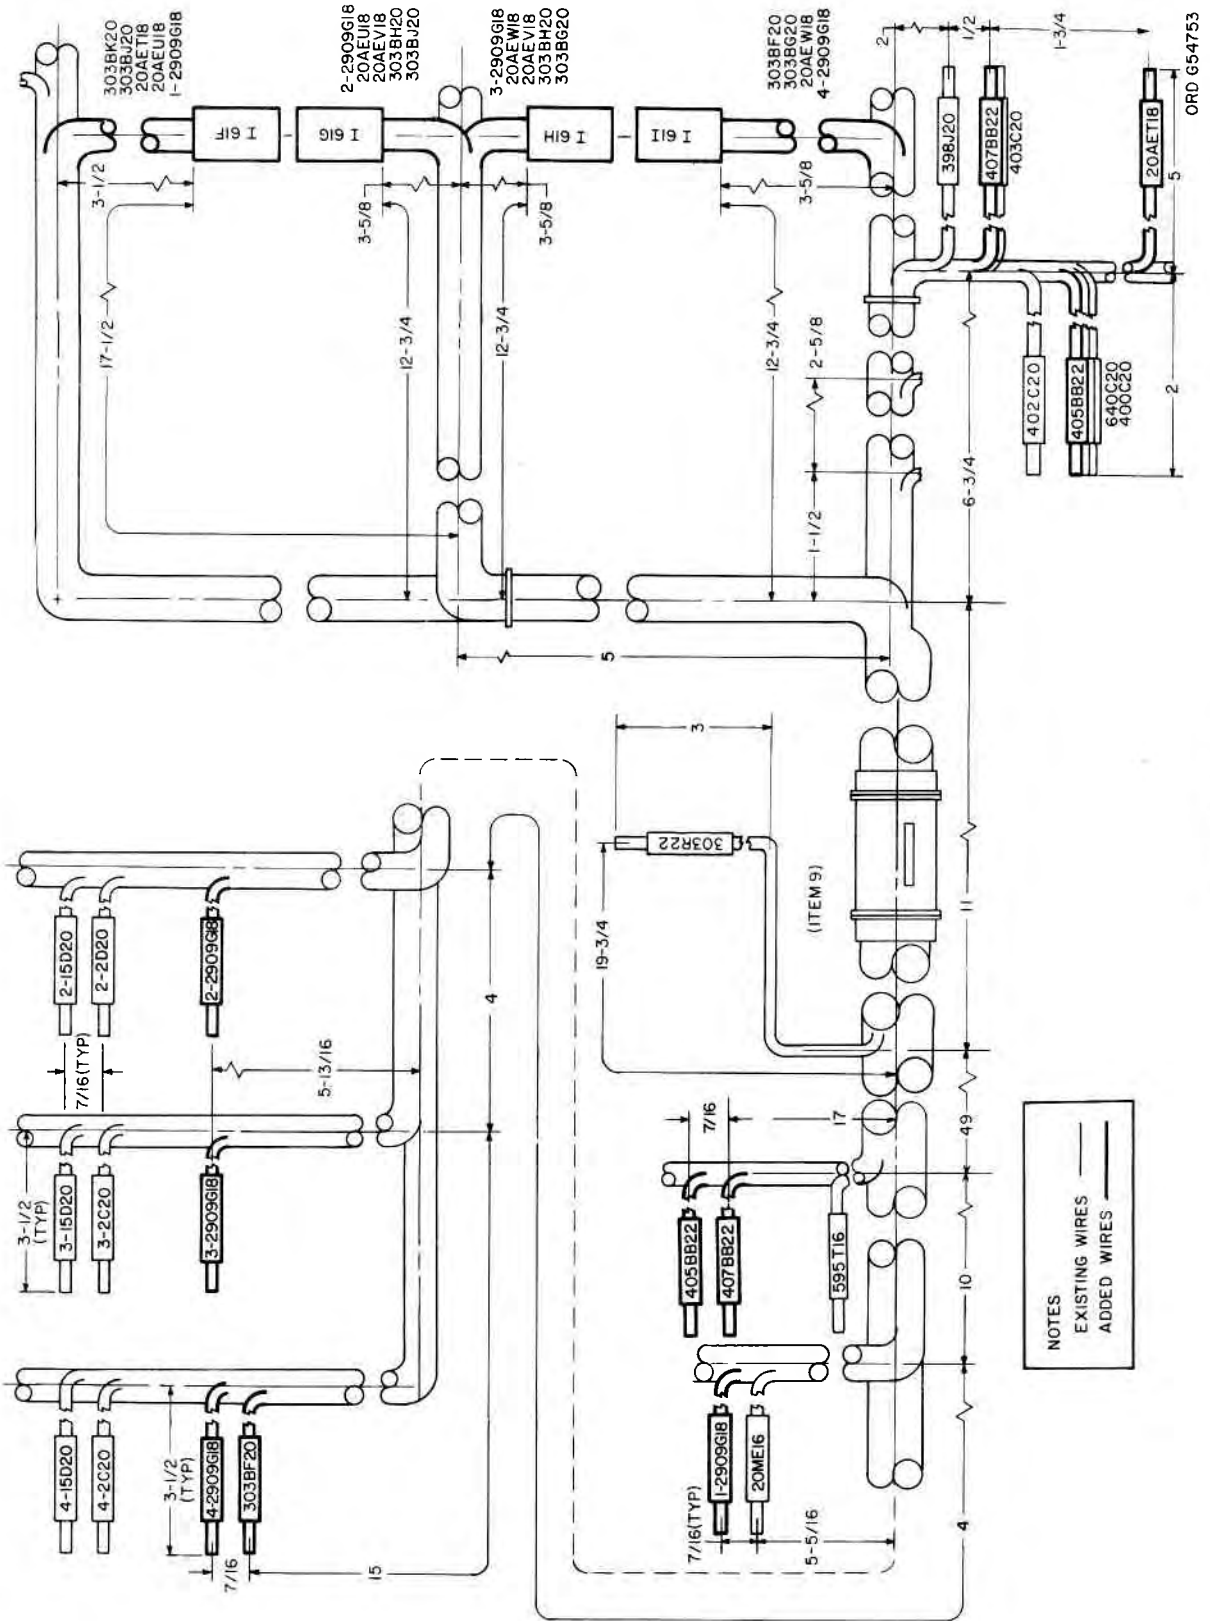

Figure 6. Modification of cable assembly 9030184 to branched wiring harness 9978288—partial view.
- (5) Install the four indicator lights, components of the branched wiring harness, item 56, in accordance with a(15) above.
- (6) Connect the wires of the branched wiring harness, item 56, as outlined in the table below. Route the wiring harness along cable assembly 9030184 in accordance with figure 6. Secure the wiring harness to the cable assembly with insulation tape.